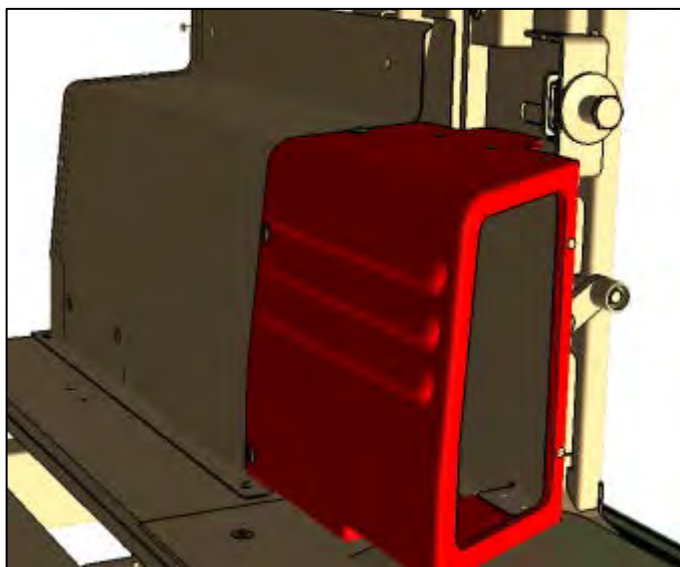
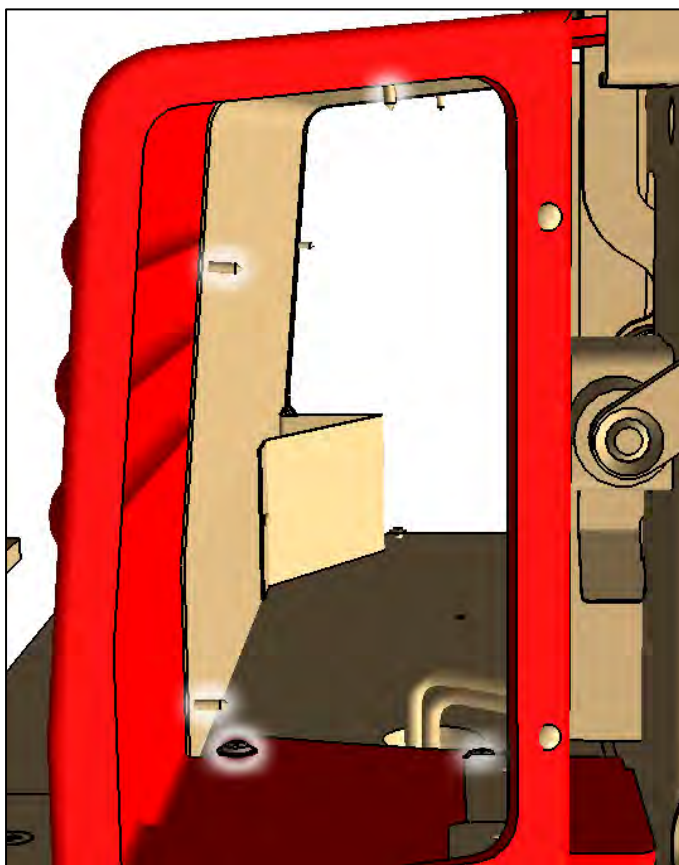

Figure 12
Figure 13
11. Remove the small duct section forward of the door. (Figure 12, Figure 13)